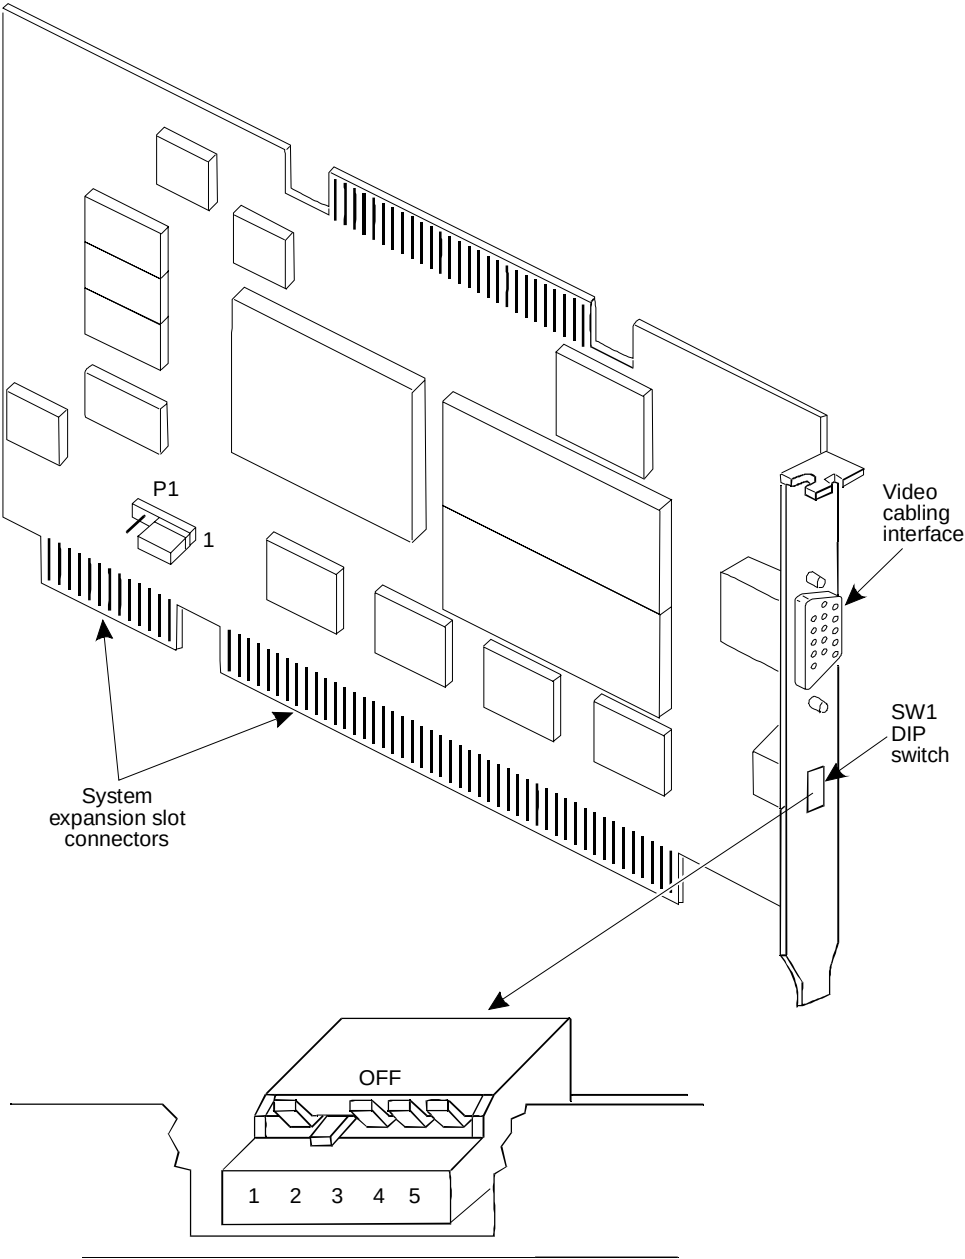

Figure 5-89. WDXLR83160 Video Controller Circuit Card and Switch Settings
- WDXLR83160 (Figure 5-89)
Figure 5-89 shows the WDXLR83160 video controller circuit card.
Position the card in front of you with the gold fingers pointing down. See Figure 5-89 for proper orientation.
These switches control the monitor's mode and vertical and horizontal retrace/scan rate. See Figure 5-89 for the location of the switch on video controller card.
Switch position 2 controls the horizontal retrace rate. This switch may be set to on or off on your current video card. For new video cards being installed, set this switch according to Figure 5-89.
Jumper JP4 – Address Latch Enable: The manufacture sets this jumper. Install the jumper block on pins 1 and 2 of JP4. Note that pin 1 is on the left side of the jumper (see Figure 5-89 for proper orientation).